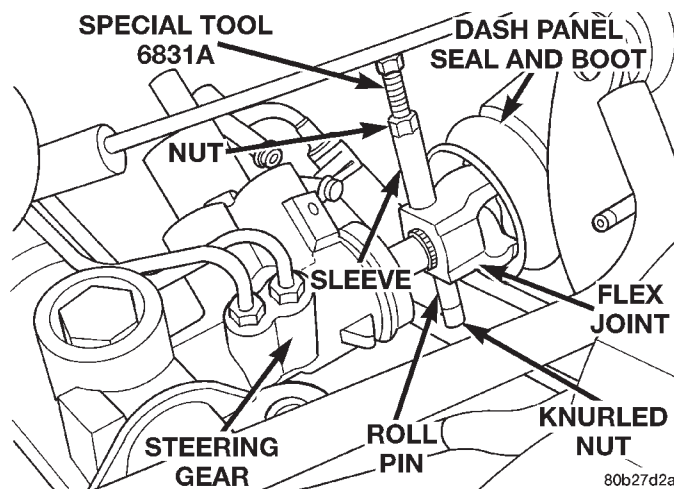

Fig. 23 Steering Coupler Roll Pin Installation
(6) Lower the vehicle until the front tires are just clear of the floor.
(7) Install the intermediate steering shaft on the steering gear.
(8) Using roll pin installer, Special Tool 6831A, install the roll pin in the flex joint of the intermediate shaft (Fig. 23). Roll pin is installed in coupler using the following procedure. Remove knurled nut from small end of removal tool. Insert small end of removal tool through center of roll pin and then install and hand tighten knurled nut. Position sleeve of removal tool on flex joint as shown in (Fig. 23). Holding threaded shaft of tool from turning tighten nut (Fig. 23) pulling roll pin into flex joint. Roll pin must be equally spaced in flex joint.